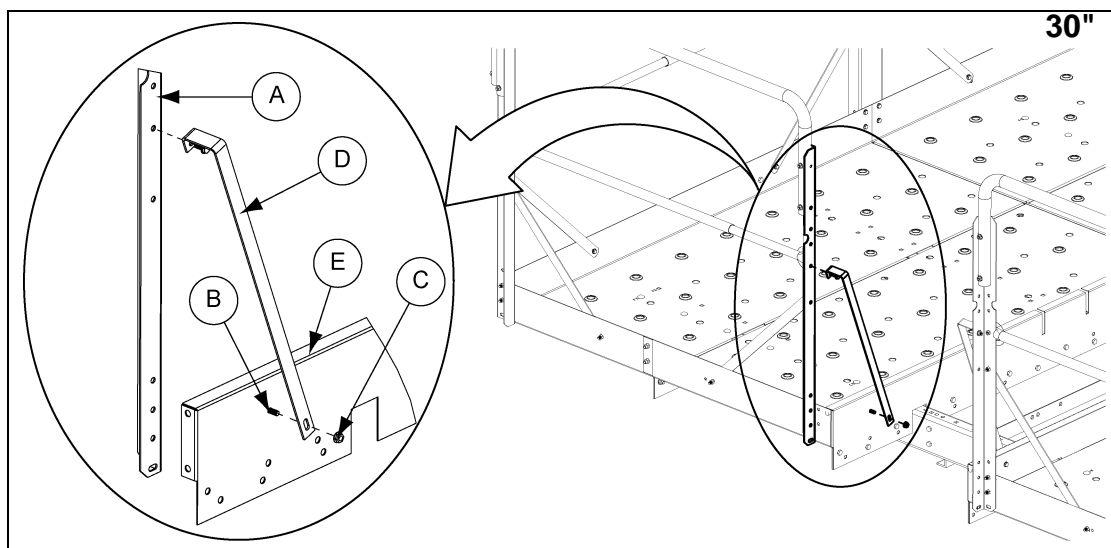

Figure 10F
2. Install handrail support bracket (HP30XHSPPT) (D) from toe board to side post (HP1648HP) (A) using 5/16" x 3/4" bolts (S-6606) (B) and nuts (S-3611) (C). *(See Figure 10F.)*